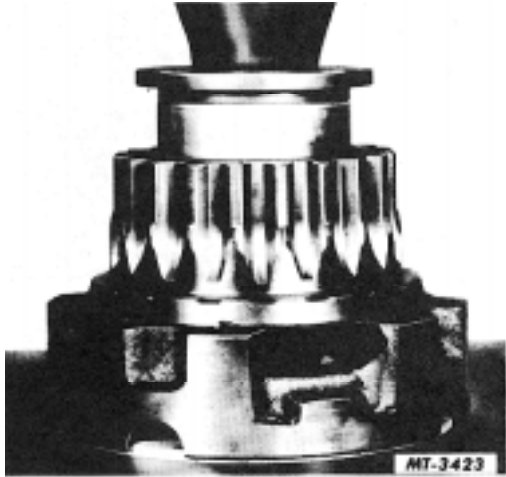

Fig. 37. Installing Bushing In Rear Half of Diff Case
1. If removed, apply a coating of rear axle lubricant to bushing and install in rear half of diff case using installer tool (SE-2024) and proper disc from (SE-1905) set to support diff case half. (Fig. 37).